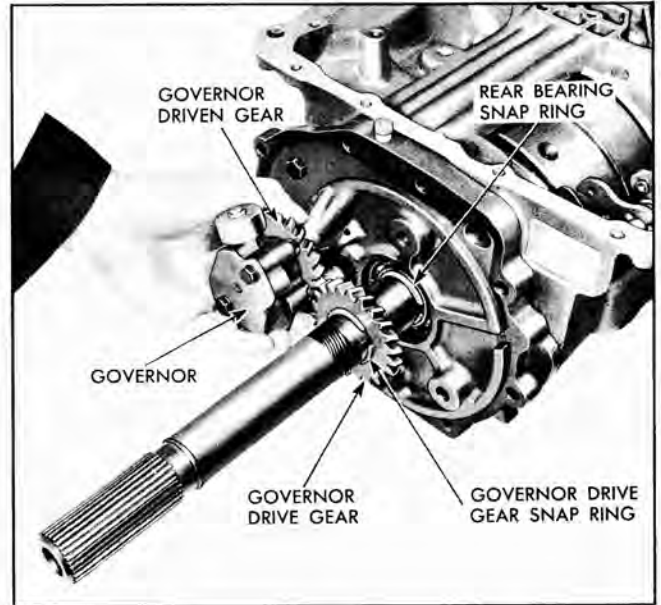

Fig. 58 Removing Governor from Reverse Piston Housing
5. Pull governor out of reverse clutch piston housing (Fig. 58).
7. Remove rear bearing snap ring from output shaft (Fig. 58).